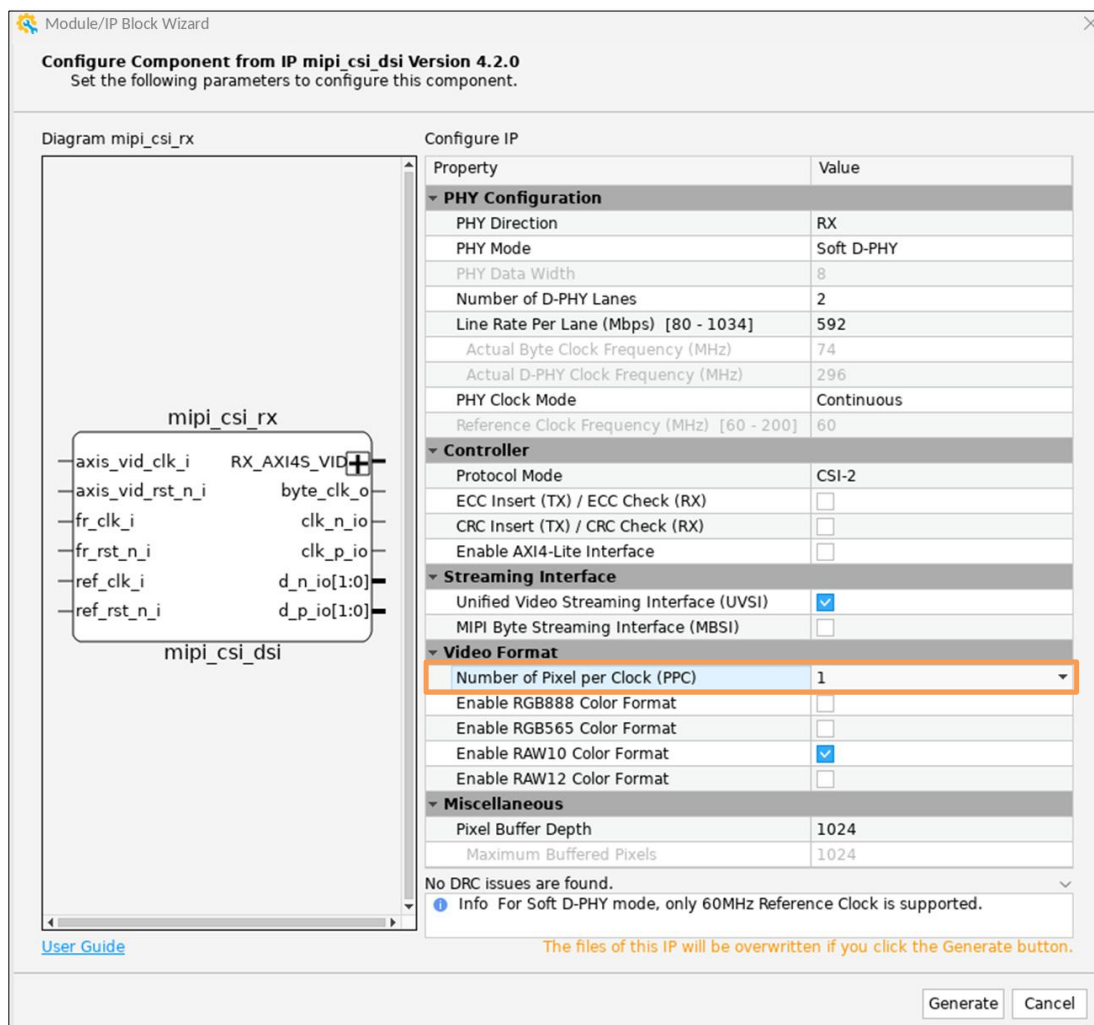

Figure 7.17. MIPI CSI/DSI Configuration
2. Under the **Video Format** setting, set the **Number of Pixel per Clock (PPC)** to 1 (Figure 7.17).